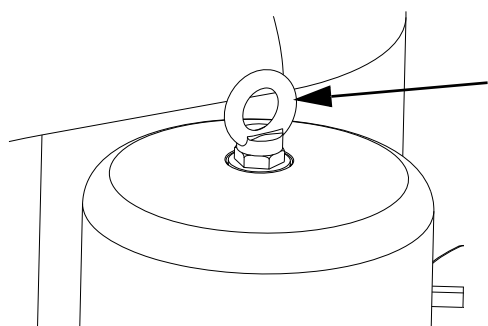

Fig. 31 Lifting eye
- Unscrew the lifting eye on top of motor. See fig. 31.